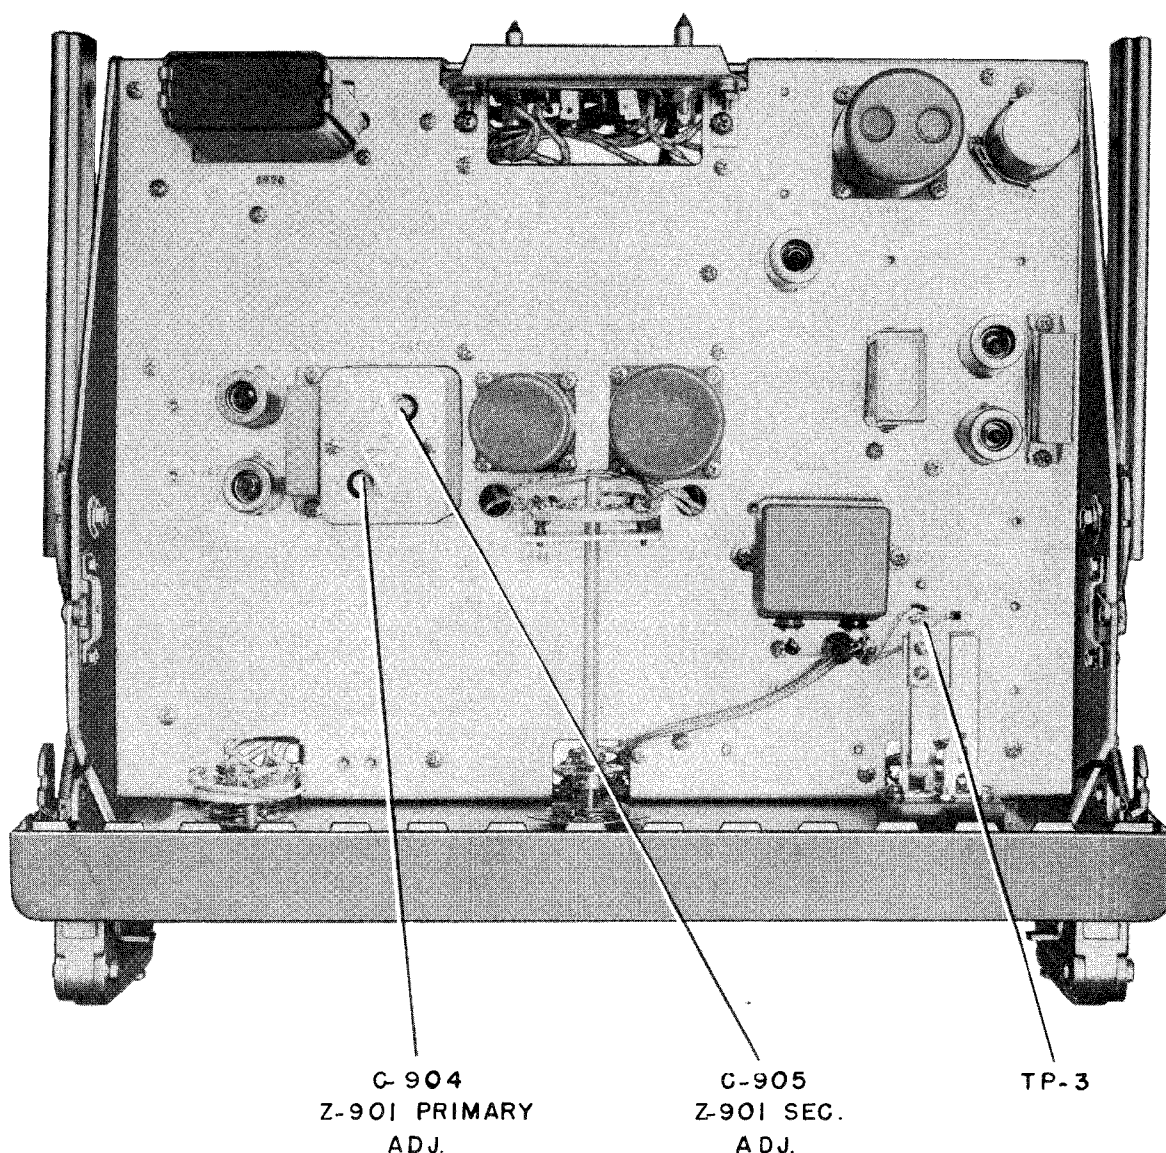

Figure 7-59. Alignment Adjustment and Test Point Locations Top of Chassis, Amplifier-Detector AM-440/FRR-24
(e) TRANSFORMER Z-901, AM-440/FRR-24 (Figure 7-95).—See Figure 7-59 for alignment adjustment locations.
Step 2. Connect signal generator AN/URM-25 tuned to an R.F. frequency of 51 kc. modulated 30% at 1000 cps. to the input side of C-901 (TP-1, see Figure 7-31) and chassis, in accordance with Method A, Par. 6. a. Connect audio level meter AN/URM-38 to the Phones jack (TP-3, see Figure 7-59). Set the A.G.C. switch S-903 at Off and the Audio Bandwidth switch S-901 at 6 kc. Set the A.N.L. switch S-902 at Off. The setting of the R.F. Gain control R-906 is optional. Set the A.F. Level control R-915 to obtain a suitable meter reading.